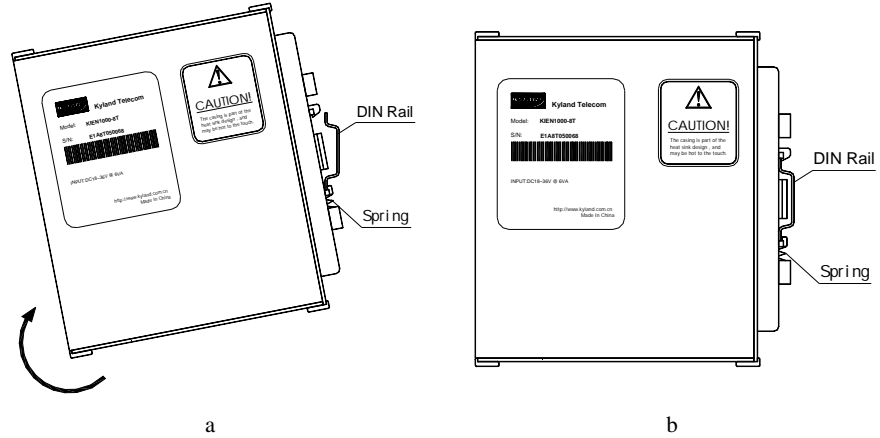

Figure 4-2 Mounting KIEN6000 on DIN rail
1. Insert the lower part of DIN rail into the fixing slot with spring supporting in the lower part of the DIN rail connector socket. Slightly rotate the equipment upwards from bottom panel of KIEN6000 as shown in Figure 4-2 a.
2. As shown in Figure 4-2 b, clip DIN rail into the DIN rail connector socket, and ensure that KIEN6000 equipment has been reliably mounted on DIN rail.